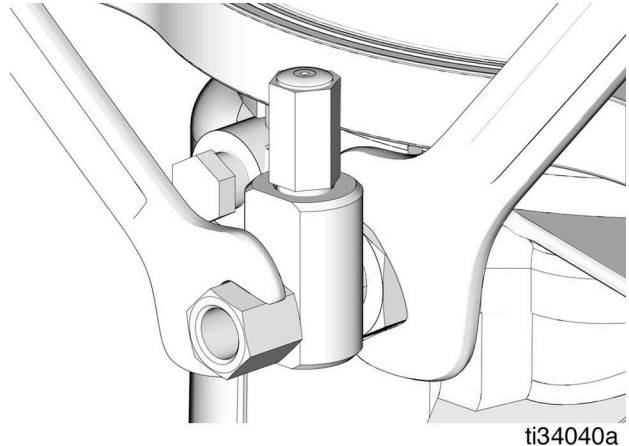

FIG. 11
- Loosen pump element fitting (FIG. 11).
- Tighten the pump element fitting using two (2) wrenches working in opposite directions (FIG. 11).